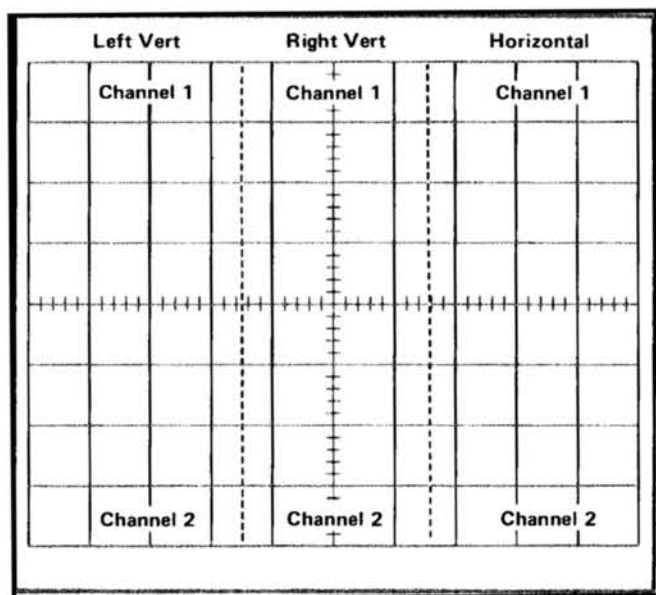

Fig. 3-24. Location of readout words on the CRT identifying the originating plug-in unit and channel (one complete frame shown, simulated readout).
**Frame**—A frame is a display of words for a given operating mode and plug-in combination. Up to six words can be displayed in one frame. Fig. 3-24 shows one complete frame (simulated readout) and the position at which each of the six words is displayed.
**Display Format.** Up to six words of readout information can be displayed on the CRT. The position of each word is fixed and is directly related to the plug-in unit from which it originated. Fig. 3-24 shows the area of the graticule where the readout from each plug-in unit is displayed. Notice that channel 1 of each plug-in unit is displayed within the top division of the CRT and channel 2 is displayed directly below within the bottom division. Fig. 3-26 shows a typical display.
The Character Generator stage produces the characters which are displayed on the CRT. Any of the 50 characters shown on the Character Selection Matrix of Fig. 3-24 can be addressed by proper selection of the column and row current. Only one character is addressable in any one time-slot; a space can be added into the displayed word by the Decimal Point Logic and Character Position Counter stage when encoded by the plug-in. The latter stage counts how many characters have been generated and produces an output current to step the display one character position to the right for each character. In addition, the character position is advanced once during each of time-slots 1, 2, and 3 whether a character is generated during these time-slots or not. This action fixes the starting point of the standard-format display such that the first digit of the scaling factor always starts at the same point within each word regardless of the information encoded in time-slot 2 (normal/invert) or time-slot 3 (cal/uncal) which precedes this digit. Also, by encoding row 10 and column 0 during any time-slot, a blank space can be added to the display. Decimal points can be added to the display at any time by addressing row 7 and columns 3 through 7 (see Character Selection Matrix for location of these decimal points). The Decimal Point Logic and Character Position Counter stage is reset after each word by the Word Trigger pulse.
The Format Generator stage provides the output signals to the vertical and horizontal deflection systems of the instrument to produce the character display. The binary Channel Address No. 2 code from the Channel Counter stage is connected to this stage so that the display from each channel is positioned to the area of the CRT which is associated with the plug-in and channel originating the word (see Fig. 3-24). The positioning current or decimal point location current generated by the Decimal Point Logic and Character Position Counter stage is added to the horizontal (X) signal at the input to the Format Generator stage to provide horizontal positioning of the characters within each word. The X- and Y-output signals are connected to the Horizontal Amplifier and Vertical Amplifier through the Horizontal Output and Vertical Output stages respectively.